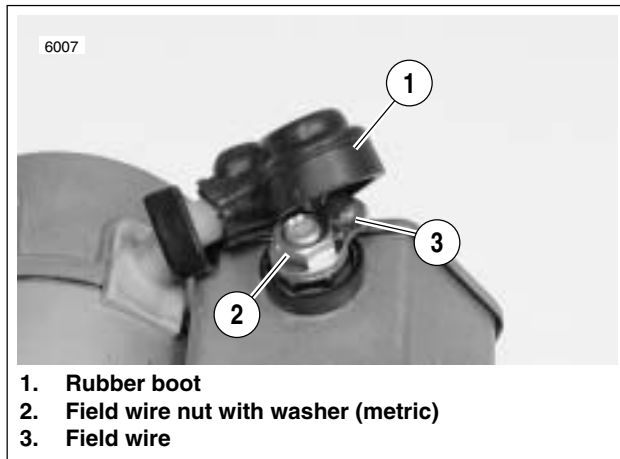

Figure 5-16. Field Wire
1. See Figure 5-16. Lift rubber boot (1). Remove field wire nut with washer (2) (metric) to detach field wire (3).